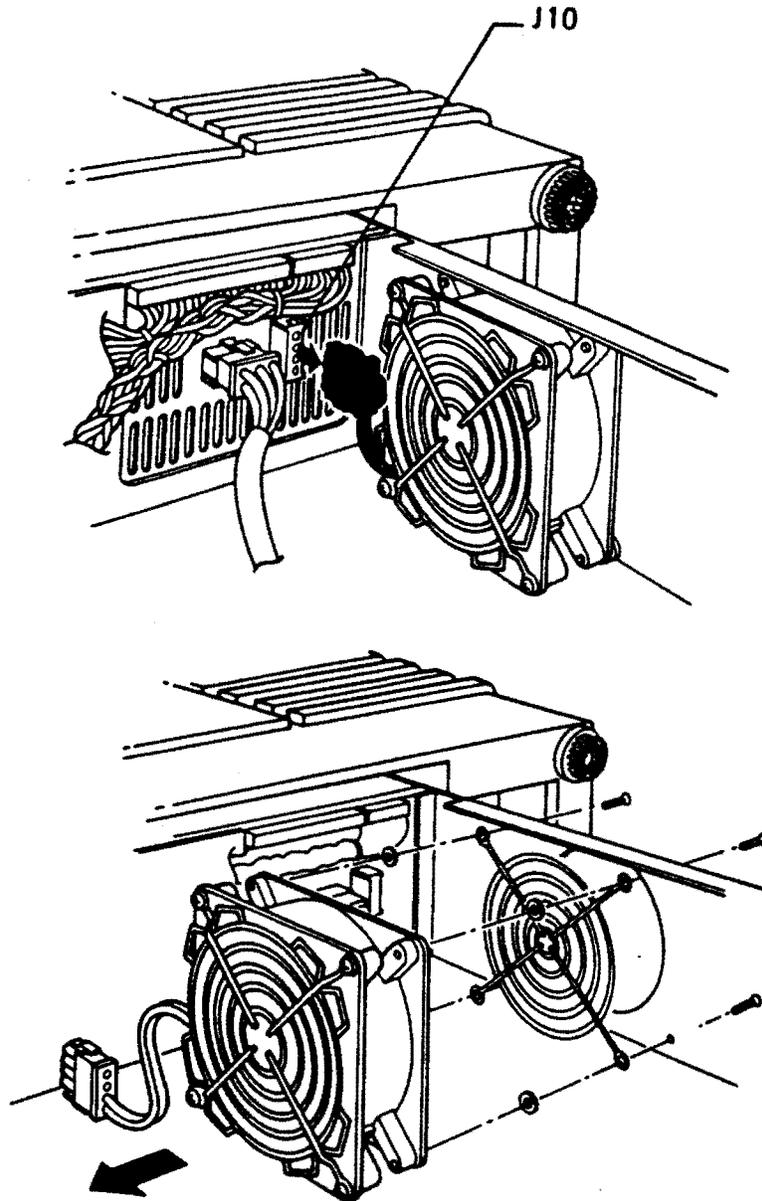

Figure 4-28: Front Fan Removal
8. Disconnect the power cord from J10 (Figure 4-28).